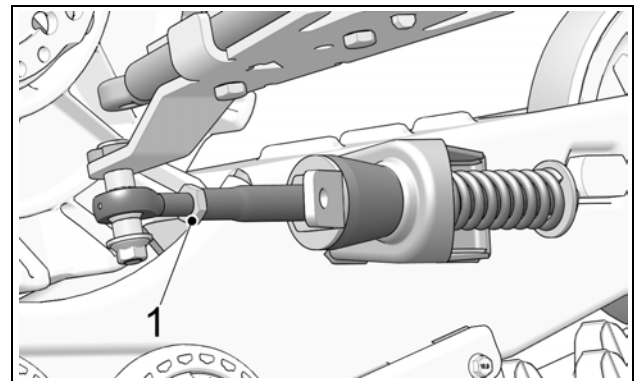

Figure 6
- When angle of attack is correctly set, tighten the jam nut (1) back against the stabilizing arm to 40 N•m [30lb•ft] of torque. See Figure 6.